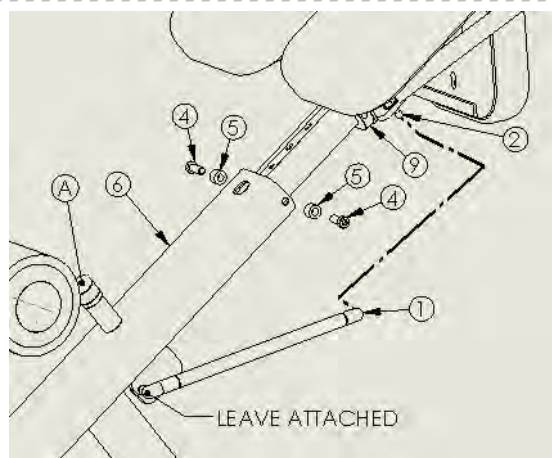

Fig. 1
1. There is a gap for a screwdriver on the GAS SPRING (1) to release the steel "spring" that holds the GAS SPRING (1) to the ball. Using a flat bladed screwdriver remove the GAS SPRING (1) by prying the spring off the top PIN (2) located on the WAIST FRAME (3). Be careful not to scratch the paint.
2. Pull POSITIONING PIN (A) upward to allow the WAIST FRAME (3) to slide up freely to expose BOLTS (4) and SPACERS (5) that are located at the top of the CENTER FRAME (6) tube.
3. Using the M10 Allen wrench, remove and save the two BOLTS (4) and SPACERS (5). Remove the WAIST FRAME (3) out of the CENTER FRAME (6) as seen in figure 1.
4. After removing the WAIST FRAME (3) from the CENTER FRAME (6) use the M10 Allen wrench to remove the BOLTS (7) and the WASHERS (8) located at the bottom of the tube, allowing the GLIDE (9) to be removed. Discard the two removed BOLTS (7) and save the two WASHERS (8). Slide the GLIDE CAP (10) off the tube.
5. With the WAIST FRAME (3) assembly removed from the CENTER FRAME (6) locate the three TOP BUSHINGS (8681801 (#1), 8681802 (#2), 8681803 (#3)) (11) included in the service kit. Select the bushing that has the tightest fit into the tube of the CENTER FRAME (6). The tightest